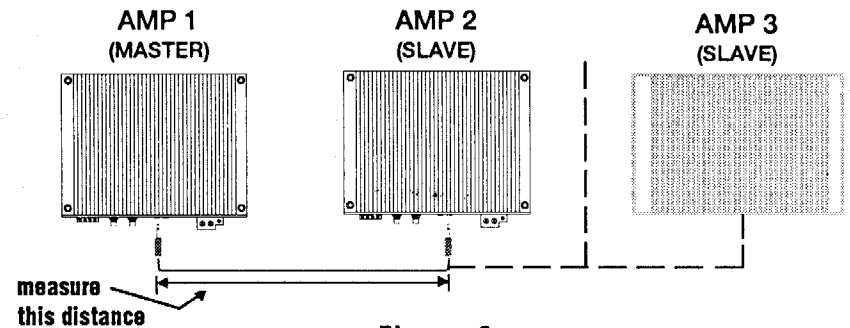

Figure 9
3. Measure the distance from the first amplifier's "master" output jack to the next amplifier's "slave" input jack (see figure 9). A "Y" connector must be used when three () amplifiers are used.